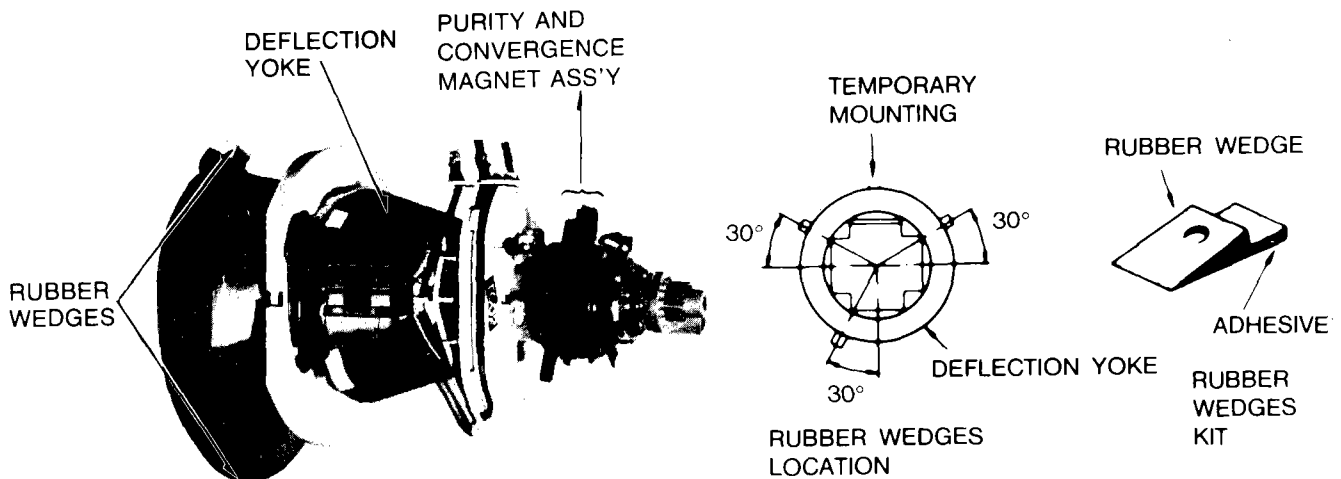

Figure 8
**CAUTION:** Convergence and Purity have been factory aligned. Do not attempt to tamper with these alignments. However, the effects of adjacent receiver components, or replacement of picture tube or deflection yoke may require the need to readjust purity and convergence. Convergence magnet assembly and rubber wedges need mechanical positioning following the figure 8. Before attempting any convergence adjustments this receiver should be operated for at least fifteen minutes. If adjustments are required the adjustments should be made in the following sequence.
2. Adjust DY to obtain a better convergence in the circumference by orbital movement of the front of the yoke, then secure the DY in appropriate position by placing the wedges as illustrates in figure 8. Tighten screw holding the DY. Stick 3 adhesive tapes on wedges as shown in figure 8.